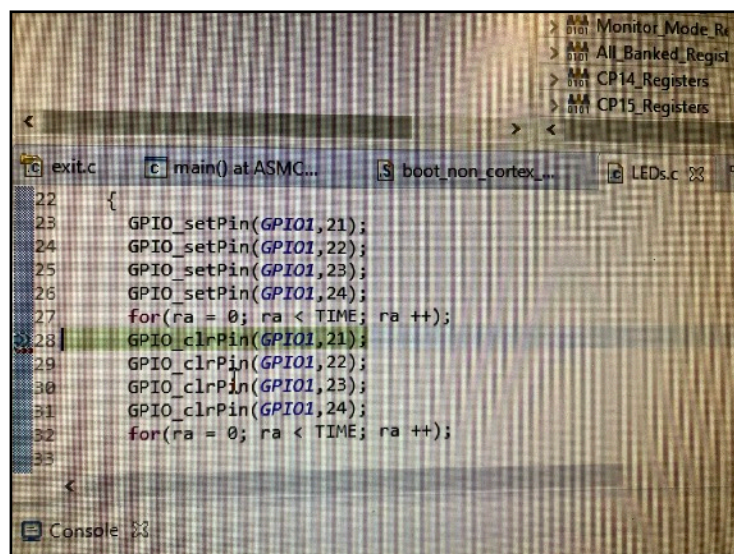

fig. 6
Step 12: set a breakpoint at line 28 of the C code as shown in figure 6, then run the program. The four LEDs lighted up, but the program halted execution at the breakpoint.